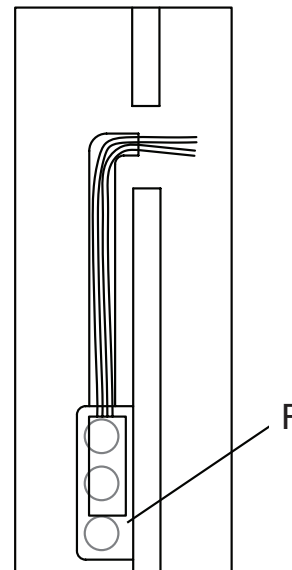
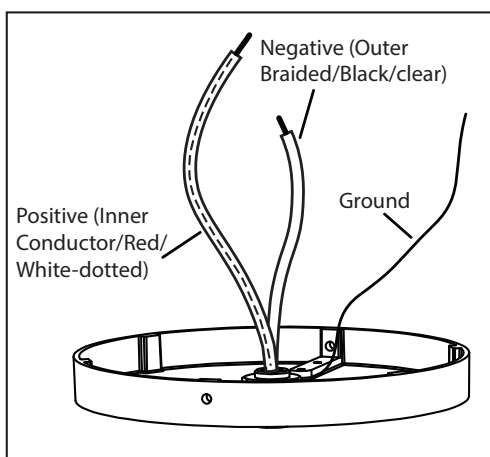
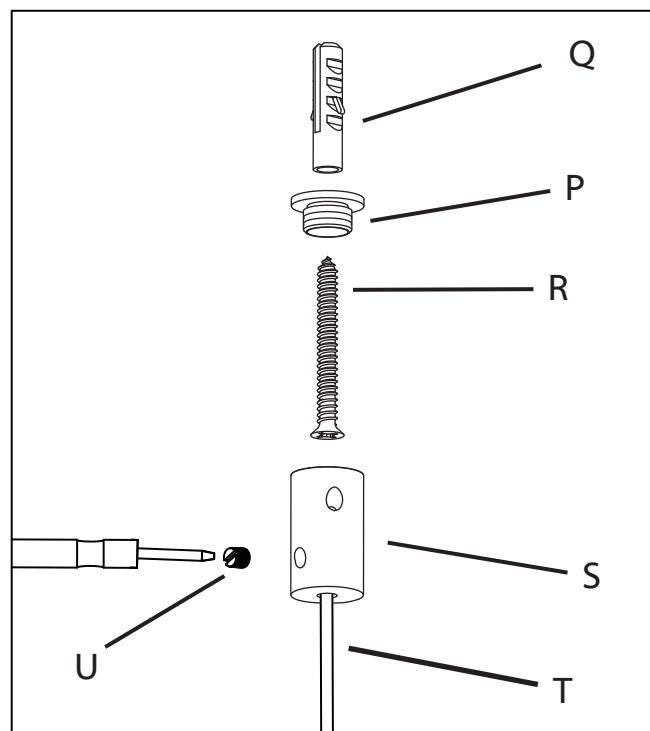

Fig. 2
Fig. 3
Fig. 4
4. The LED driver (F) must be installed in a remote and accessible location near the fixture in accordance with local electrical code (Fig. 2).
- c. Connect the LED driver's positive (+) output wire to the necessary length of red wire (not included) to reach the outlet box (A) location.
- d. Connect the LED driver's negative (-) output wire to the necessary length of black wire (not included) to reach the outlet box (A) location.
5. Determine height at which the fixture (B) is to be hung, adjust power cord (G) to desired height and secure by tightening the set screw (H). Reserve extra cord in the canopy (J).
6. Attach the mounting plate (K) to the outlet box (A), secure with outlet box screws (L).
7. Make appropriate electrical connections using wire nuts (Fig. 3):
- c. Carefully place the connections in the outlet box (A).
8. Install the canopy (J) to the mounting plate (K) and secure with canopy set screws (M) using the provided Allen key (N).
9. Install the mounting bracket (P) to the ceiling with anchor (Q) and screw (R), then screw the post (S) onto the mounting bracket. Insert the cord (T) into the post, adjust to the desired height, and secure by tightening the set screw (U). Cut off the excess cord where it exits the post. (Fig. 4)
10. Restore power to the outlet box (A).